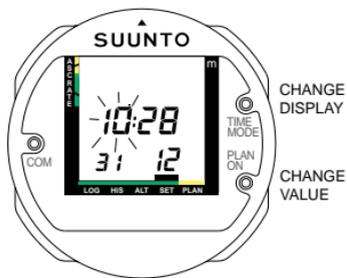

Fig. 4.12 TIME SETTING
1. Activate the Time Setting mode by connecting the TIME/MODE and COM contacts continuously to scroll through the menu. Release your fingers immediately when Set appears on the display. The Time Setting display will now be shown (Fig. 4.12).
2. The hour display starts to blink immediately (Fig. 4.12). If you want to change it, keep the PLAN/ON and COM contacts connected. The hours will start to scroll (Fig. 4.13). Release your fingers immediately when the correct value is displayed. [To change the A or P for a.m. or p.m. scroll the hours past 12:00].